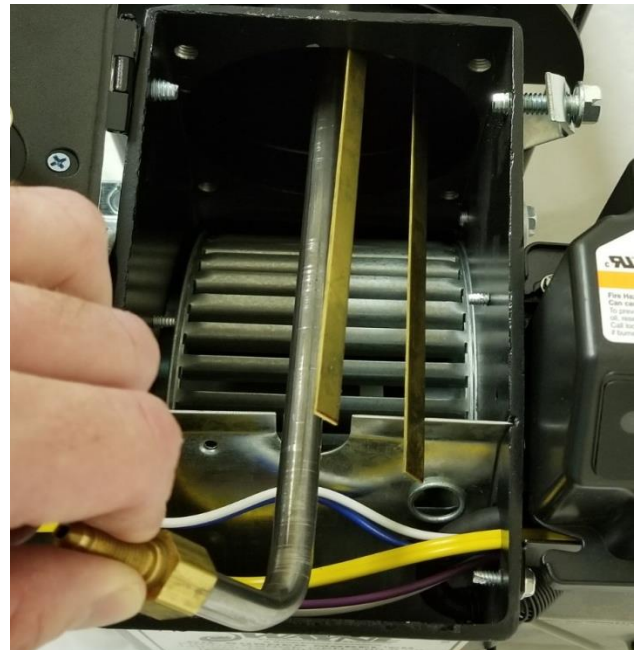

Figure 12 EH/EHASR Oil Gun Removal (Continued)
6. While rotating the oil line fitting adapter up at a 45 degree angle, gently lift, but do not force, the entire gun assembly out of the housing opening (Figure 12).